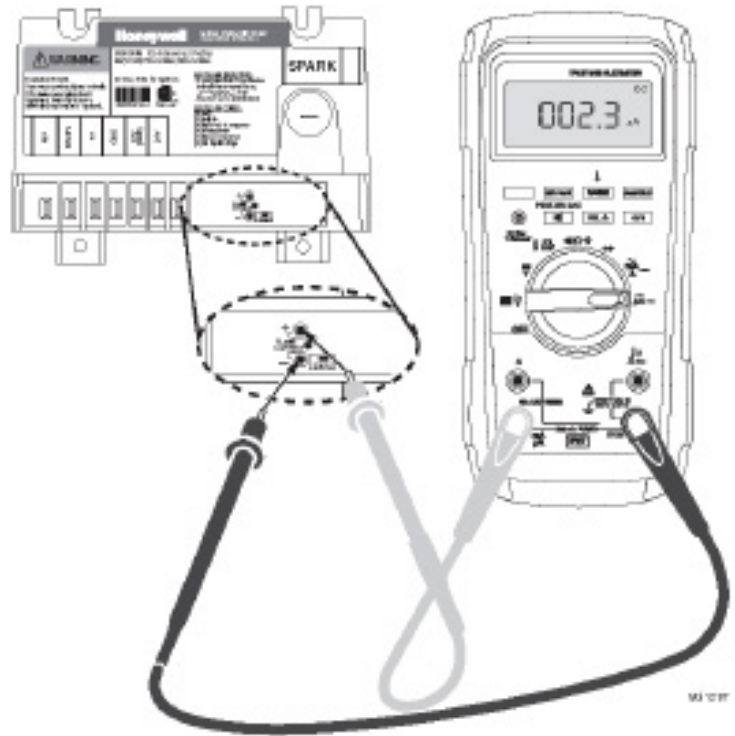

Figure 11-3: Measuring Pilot Flame Current with Micro-ammeter
A. Flame Current Measurement Procedure. See Figure 11-3 “Measuring pilot flame current with micro-ammeter”
- i. Pilot flame current in micro amps can be measured using any standard micro-ammeter by inserting meter probes into module holes labeled FLAME CURRENT as shown in Figure 11-3.